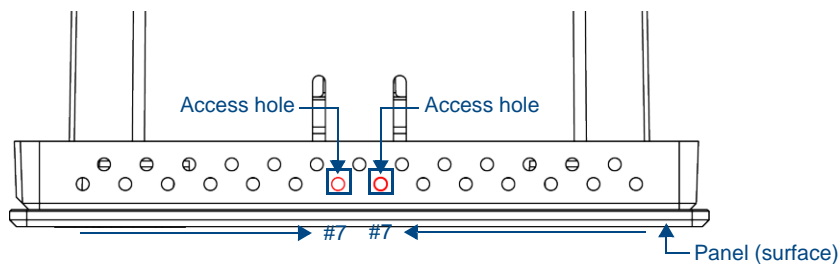

FIG. 60 Top View of the MXD-430 showing access holes in molding
2. On the top of the MXD-430, locate the **seventh** ventilation holes from each edge, on the row closest to the glass (FIG. 60): .
3. With a stout, strong point (a push pin or straightened paper-clip, for example), carefully press straight into the access holes in the center of the molding (FIG. 60) until the snap is disconnected.